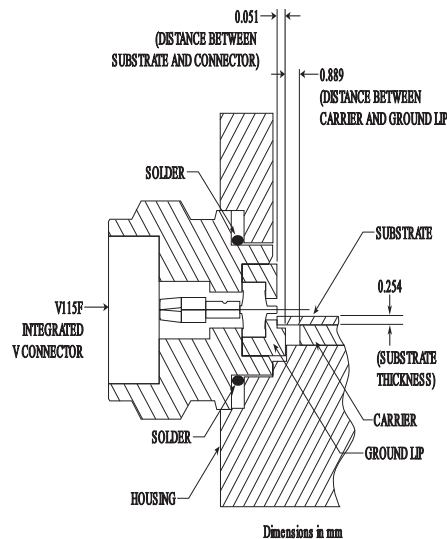

Figure 3. V115FMS10 Assembly
- Place and push the connector into the housing; ensure that the ground lip is positioned as shown in Figure 3.